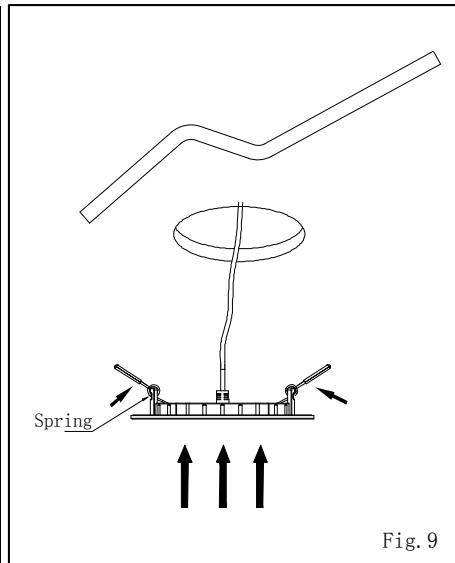

Fig. 9
10. Squeeze both TORSION SPRINGS arms together and insert into the ceiling opening. (Fig.9)